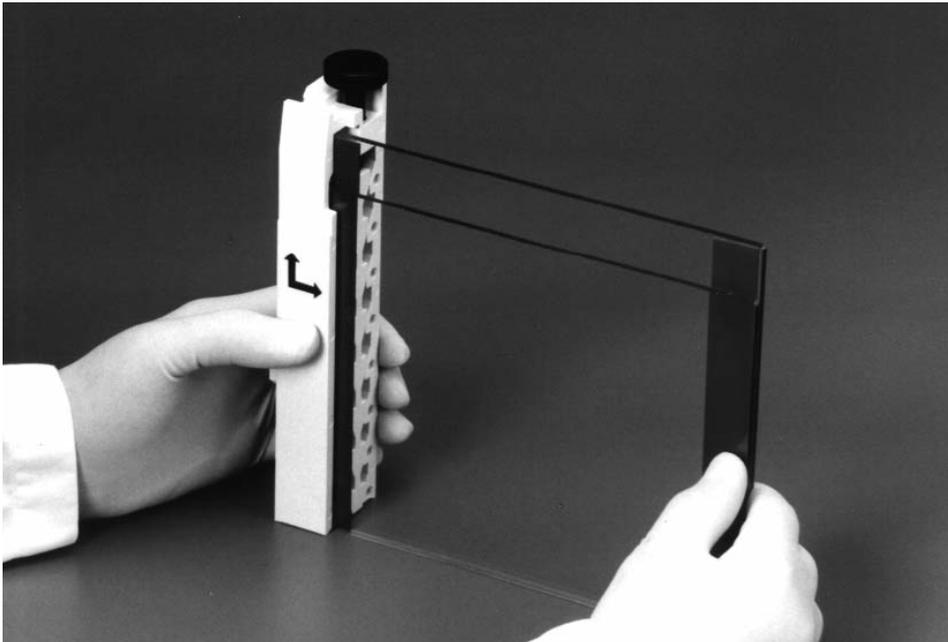

Fig. 4.18. Attaching the clamps to the glass plate assembly.
4. Grasp the gel sandwich firmly. Guide the left and right clamps onto the sandwich so that the long and short plates fit the appropriate notches in the clamp (Figure 4.18). Tighten the screws enough to hold the plates in place.